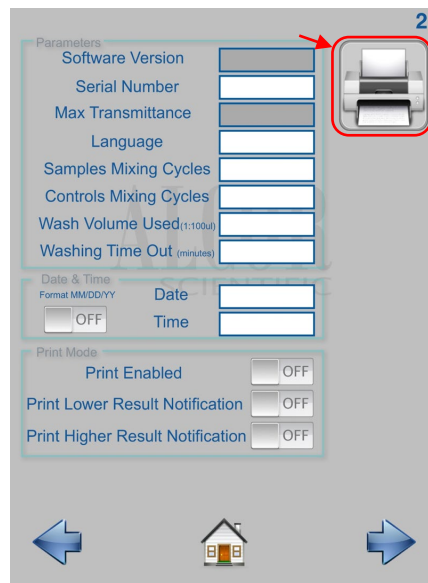

Figure 44
10.11. Access the service screen, press the right-hand pointing blue arrow to access Tech Screen #2 (refer to Steps 4.1 and 4.2) and select the printer icon to print the Configuration report. Figure 44